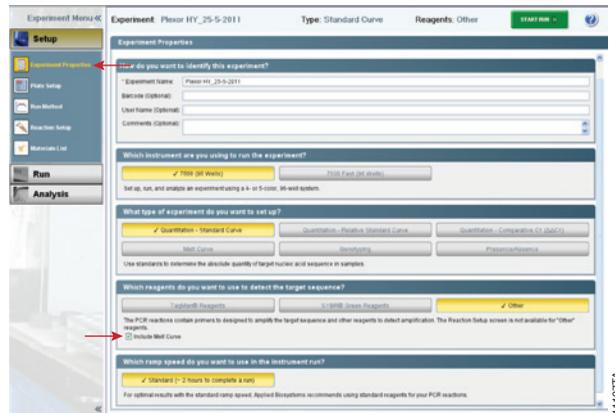

Figure 12. Advanced Setup screen.
4. In the “Experiment Properties” form (Figure 12), specify the following parameters: